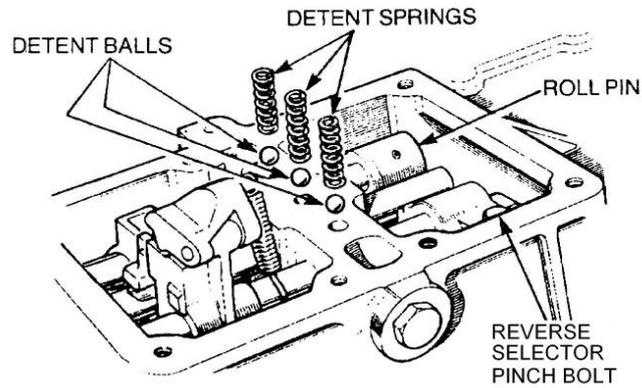

Figure 161 Removal of the Detent Springs
- g. Remove the detent springs, taking note that the reverse spring is painted yellow (Figure 161). Using a small magnet remove the detent balls.